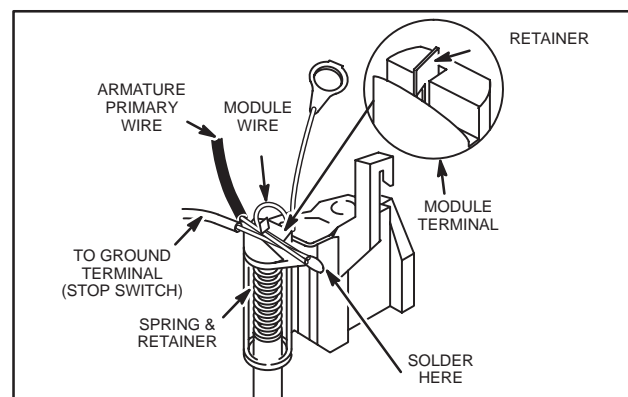

Fig. 10 – Install Wires in Module
2. Depress spring and retainer and install armature primary wire, module wire and ground wire from stop switch, Fig. 10.